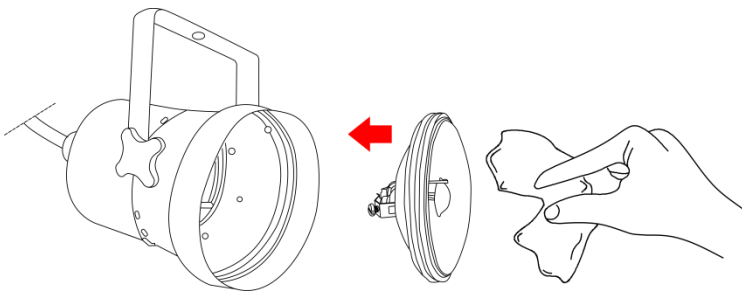

Fig. 05
- 04) Remove the lamp from the box and hold it **by the base**. Read lamp instructions. **Do not touch the lamp bulb glass**. Oil on hands shortens the lamp's lifespan. If you touch the bulb glass, wipe it off with a clean, lint free towel and rubbing alcohol (Fig 05).